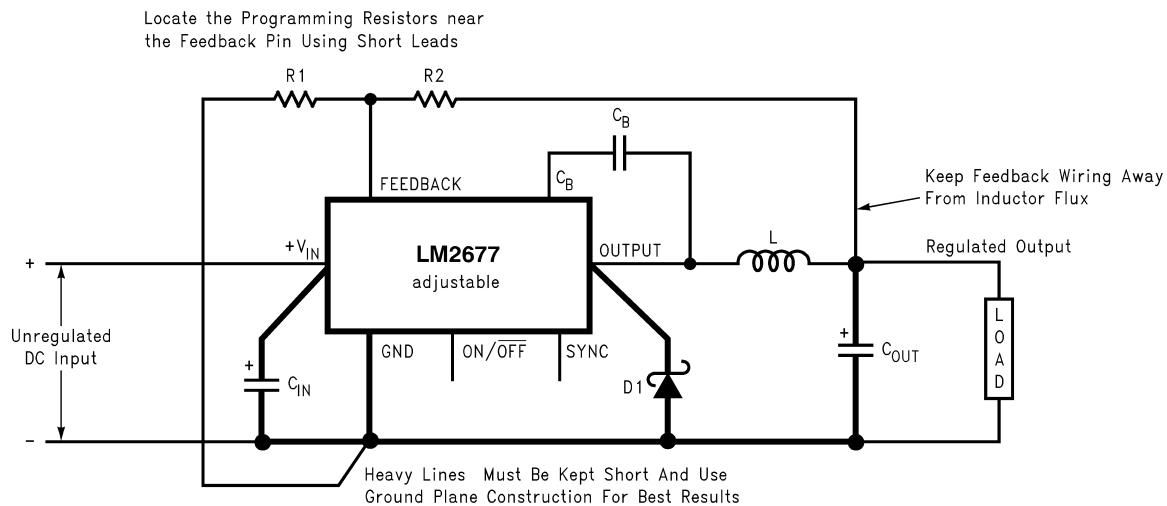

FIGURE 2. Basic circuit for adjustable output voltage applications
**Step 2:** Select an LM2677S-ADJ. To set the output voltage to 14.9V two resistors need to be chosen ( $R_1$  and  $R_2$  in *Figure 2*). For the adjustable device the output voltage is set by the following relationship: